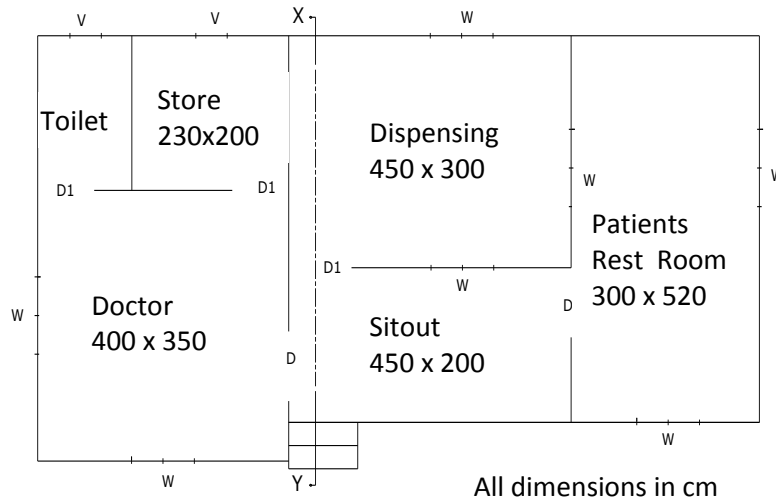

Fig. 1
5. The line sketch of a small hospital is shown in Fig. 1. Draw to a suitable scale the following: